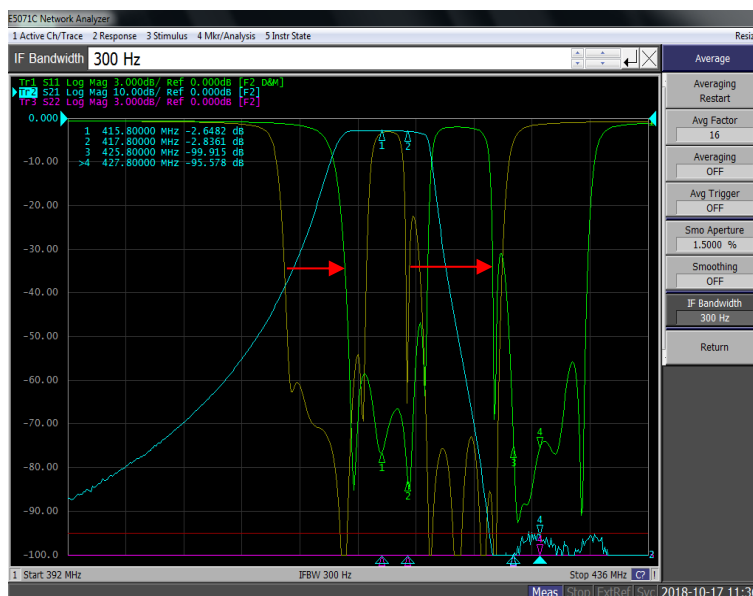

Fig.7 An example of 5MHz frequency shift by tuning
4. **Frequency band shift.** Gently move up and down the tuning rods with the screw driver to shift the band to desired new band then lock the nuts. Move the frequency tuning rods clockwise will lower the frequency, move the frequency tuning rods counter clockwise will increase the frequency. Move up and down the tuning rods smoothly and switch between each rod to maintain the shape of the VNA plots, as the example shown in Fig.7.